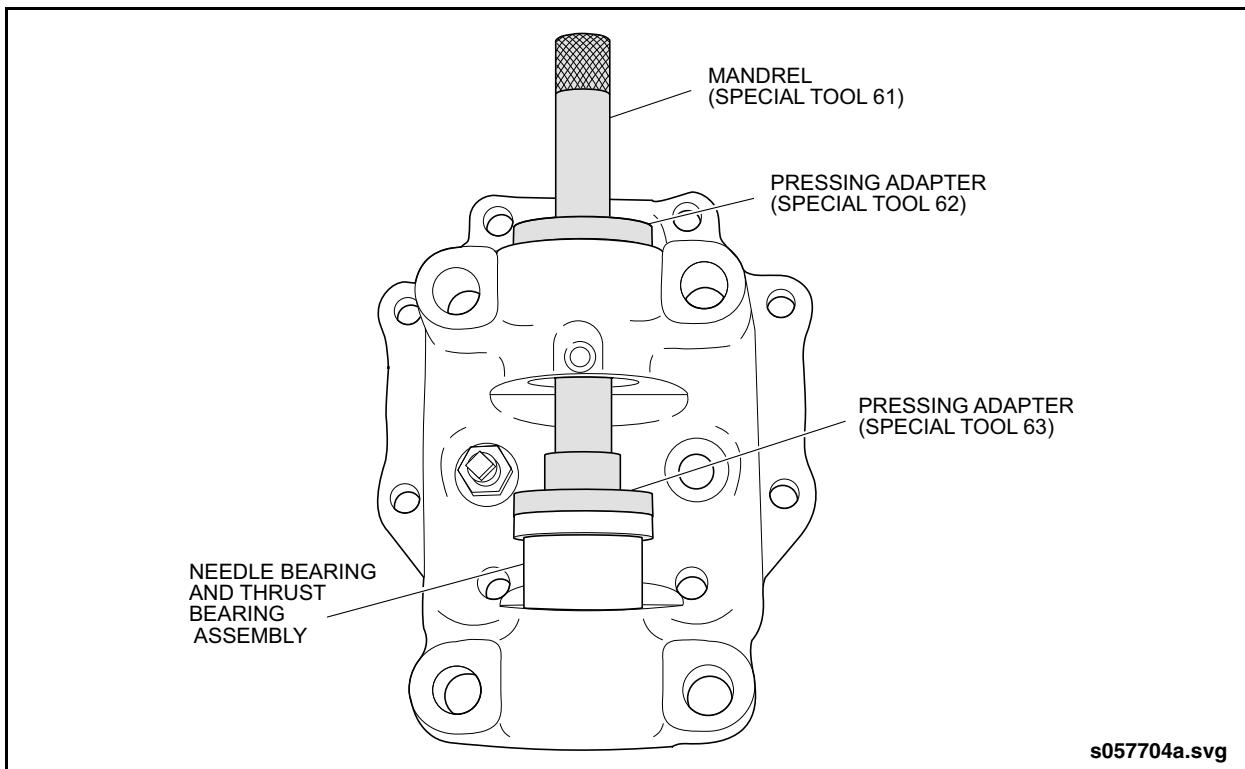

Fig. 1-35: King Pin Needle & Thrust Bearing Installation
14. Position long end of mandrel against press ram and press needle bearing and thrust bearing assembly in until shoulder on pressing adapter (Item 63 from special tools list) seats on steering knuckle. See "Fig. 1-35: King Pin Needle & Thrust Bearing Installation" on page 31.